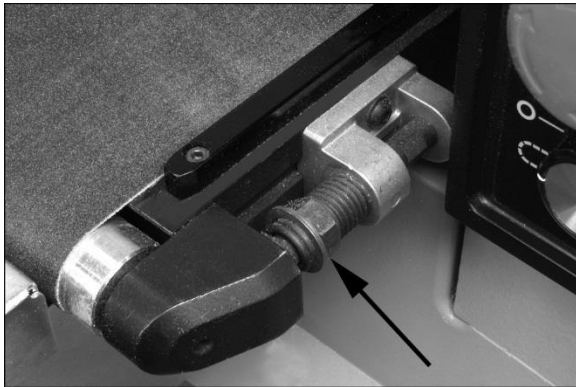

Figure 11
- Adjust take-up screw nuts (Figure 11) with a 17mm wrench. Do this on both sides of conveyor to obtain approximately equal tension on both sides of sanding belt when taut.
- Turn on conveyor and set to maximum speed. Watch for a tendency of conveyor belt to drift to one side of conveyor. If it drifts, tighten or loosen take-up screw nut on *right side* of conveyor (Figure 11).